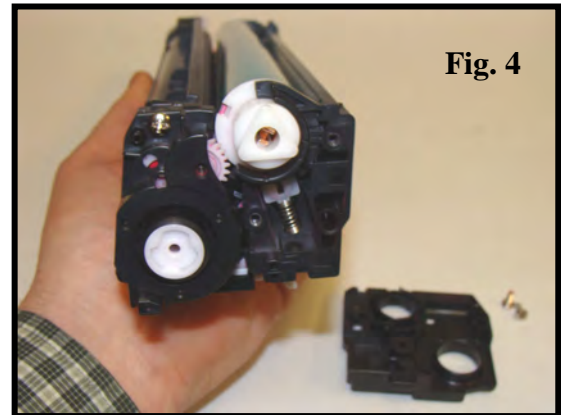

Fig. 4
4. Caution - The cartridge halves are held in place by the end caps. Hold the two cartridge halves together and remove the end cap (Fig. 4).